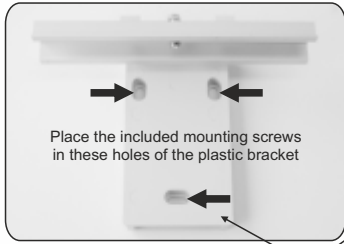

Figure 1
1. Install the included plastic bracket on the wall and the aluminum bracket (figure 1,2).